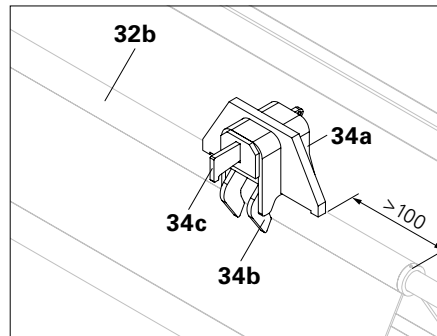

Fig. A10.03a
1. Place Stopper (34) with contour plate (34a) and clamping piece (34b) on the upper tube (32b) of the Alu Rail. Take into consideration dimension > 100 mm. (Fig. A10.03a)